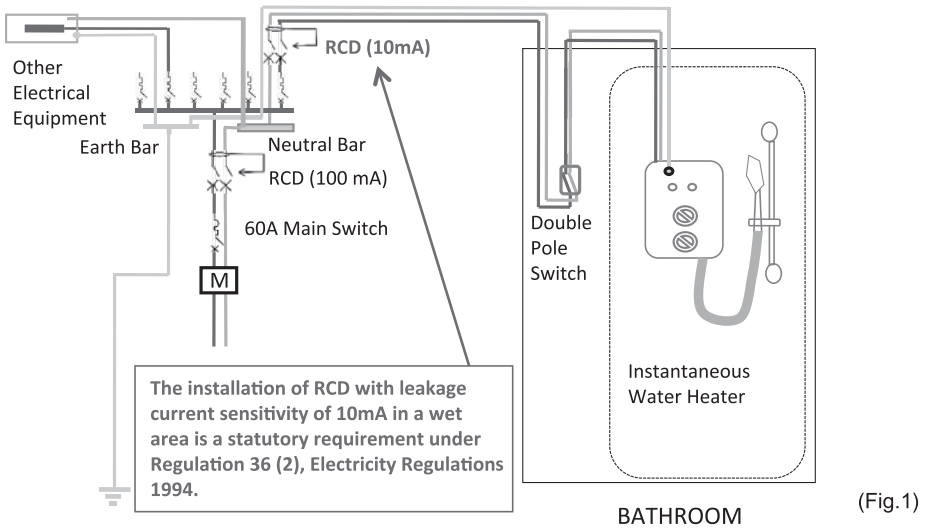

Figure 1: The installation of RCD for instantaneous water heater with leakage current sensitivity of 10mA in a wet area.
1. Product introduction .....	(5)
2. Unit installation .....	(8)
3. Troubleshooting .....	(11)
4. Packing list.....	(12)
- Incorporating Figure 1, The installation of approved extremal RCD for instantaneous water heater with leakage current sensitivity of 10 mA in a wet area of the Energy Commission Guideline for the Design, Installation, inspection, Testing, Operation and Maintenance of Water Heater Systems.